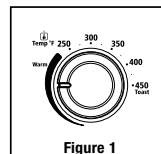

Figure 1
1. **Function Selector Knob** – Select cooking function by turning knob to desired setting. (See Figure 1)